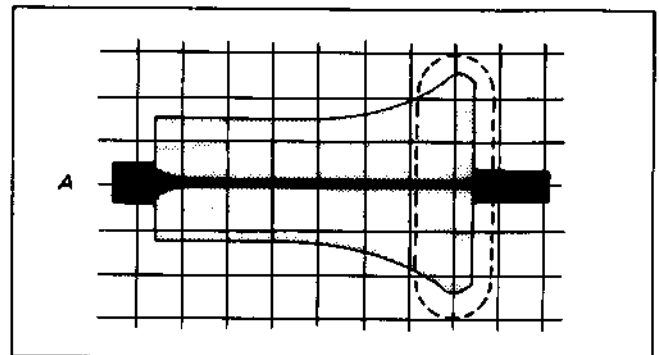
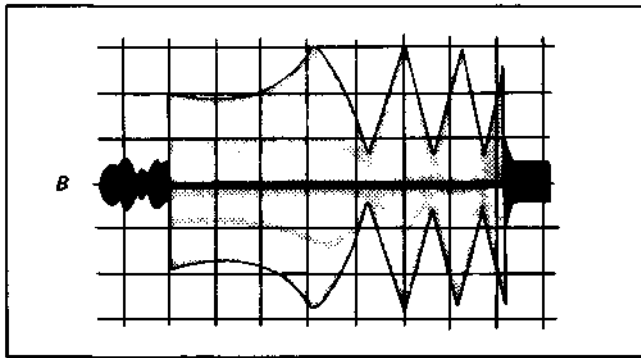

Fig. 4-12.
Fig. 4-13.
- When the waveform is outside this range and has the form shown in Fig. 4-12, turn the tilt adjustment screw clockwise to adjust until the waveform is within the required range.
- When the exit free waveform is outside of the required range and has the form shown in Fig. 4-13, turn the tilt adjustment screw counterclockwise to produce waveform A (Fig. 4-12), then turn it clockwise to bring the waveform within the required range.
- 8) If the radio frequency waveform is as shown in Fig. 4-12 on the exit side, repeat the adjustment.